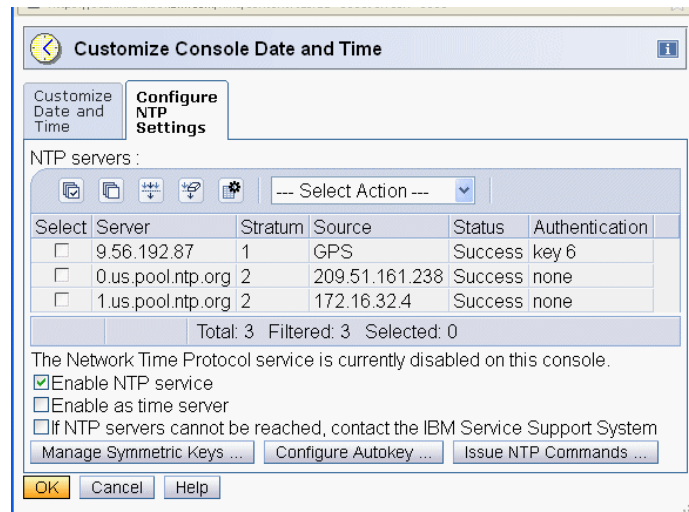

Figure 1-17 Enable Network Time Protocol service
- The final panel listing all defined NTP servers with their status at the time of the last query is shown. The Network Time Protocol services are still disabled at that point in time. The final step to enable the NTP services on this HMC is done by selecting **Enable NTP services**, as shown in Figure 1-17.